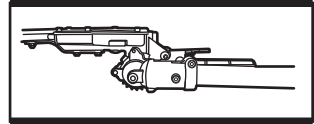

Fig. 7b
- b). Insert the shaft and secure the connection with the bolts by using the hex key (D4). (See Fig. 7b)